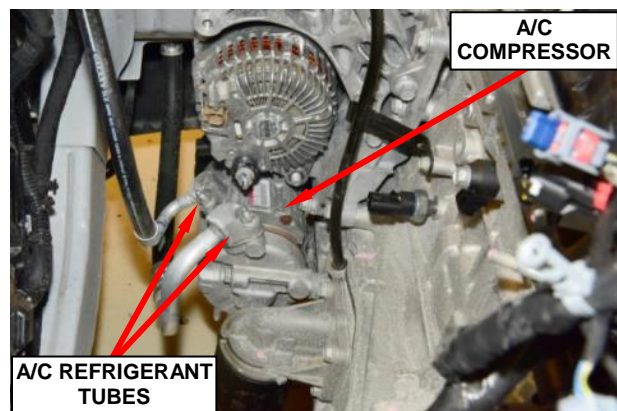

Figure 87 – A/C Compressor Tubes
68. Remove and save the nuts that secure the A/C suction and discharge refrigerant tubes to the A/C compressor (Figure 87).